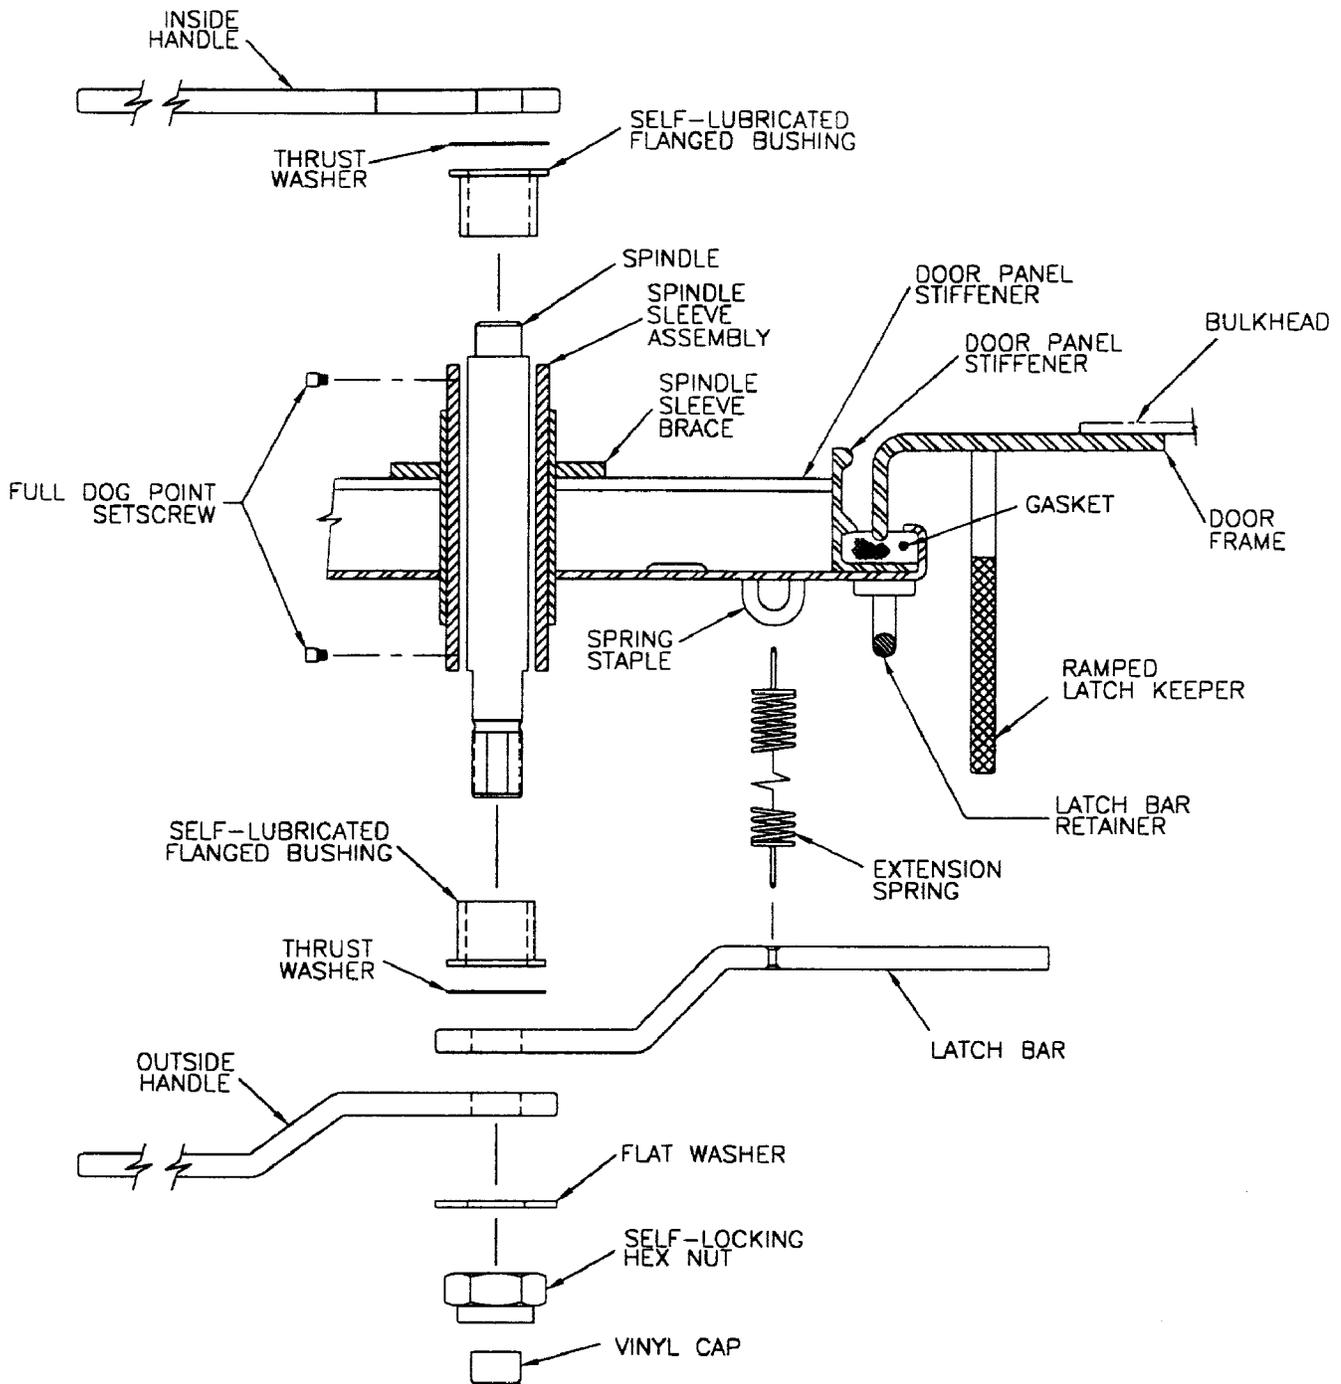

Figure 1-20. Dogging Assist Latch Installed by MACHALT 167-53009 (ECP-514)
- c. MACHALT 167-53009 (ECP-514) installs a dogging assist latch on high traffic, quick-acting, 3-dog, airtight, nonballistic doors and fragmentation doors. (See figure 1-20.)